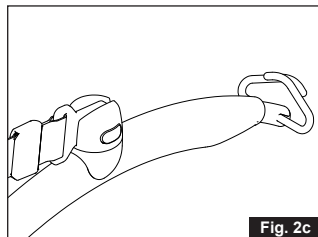

Fig. 2c
2. Release the yellow button (*fig. 2c*)